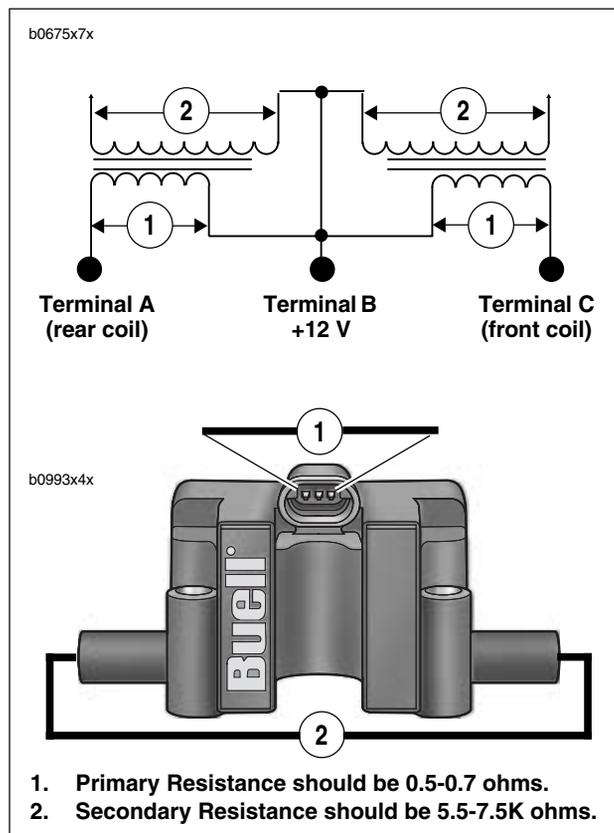

Figure 4-38. Ignition Coil Testing
3. See Figure 4-38. Place multimeter wires on primary coil windings (1).
3. See Figure 4-38. Place multimeter wires on secondary coil windings (2).